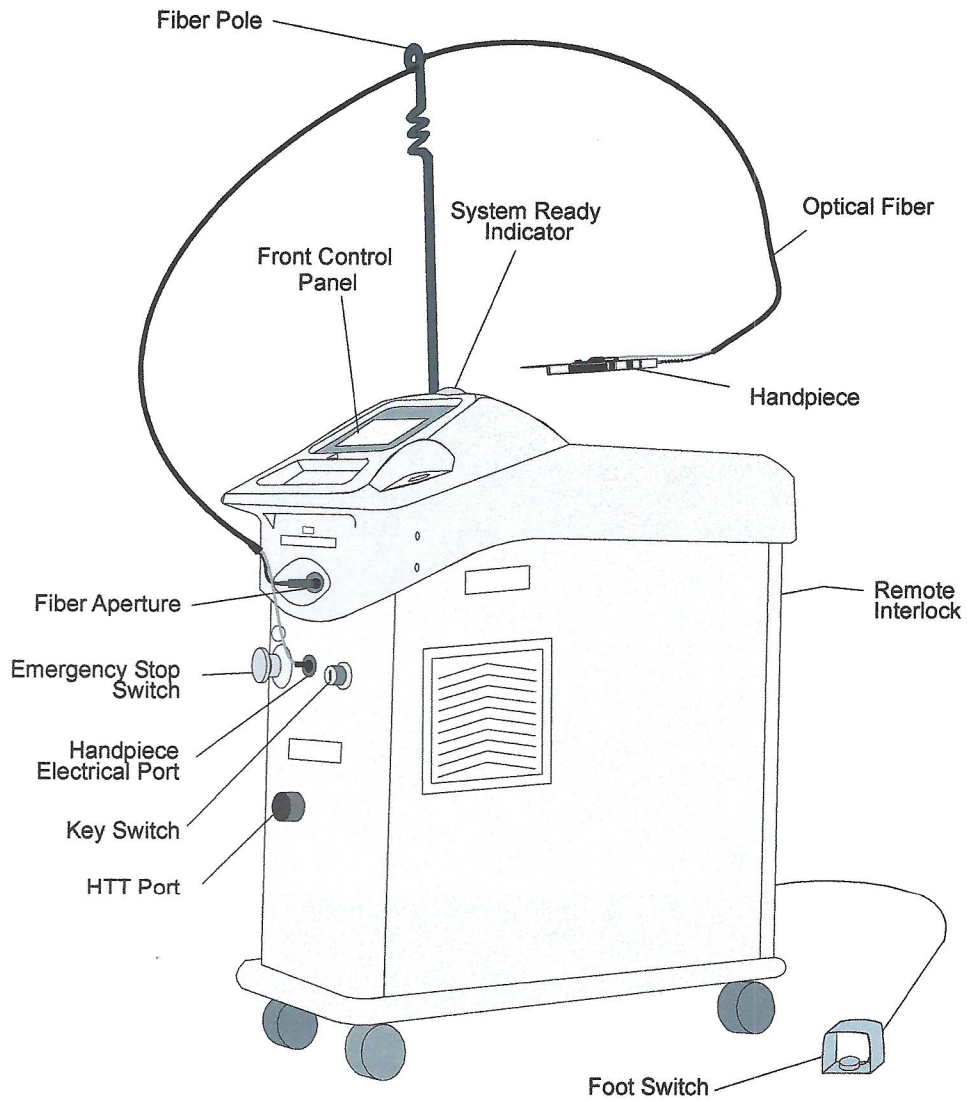

Figure 4—Major Components
- The **Foot Switch**, which is an electrical switch intended to be located on the floor and actuated by foot. See **Figure 4**.
The Handpiece Transmission Test (HTT Port) is the aperture in which the operator places the distal end of the handpiece during the Fiber Test. See **Figure 4**.
Refer to **Figure 4** to identify the major components of the laser system.
The System Power Controls include the keyswitch and the red Emergency STOP switch. They are located on the front of the system below the control panel, see **Figure 4**.